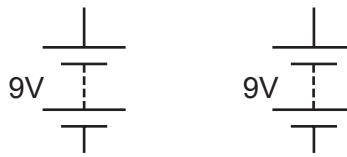

Fig. 8.1
- 8 Fig. 8.1 shows two battery symbols.